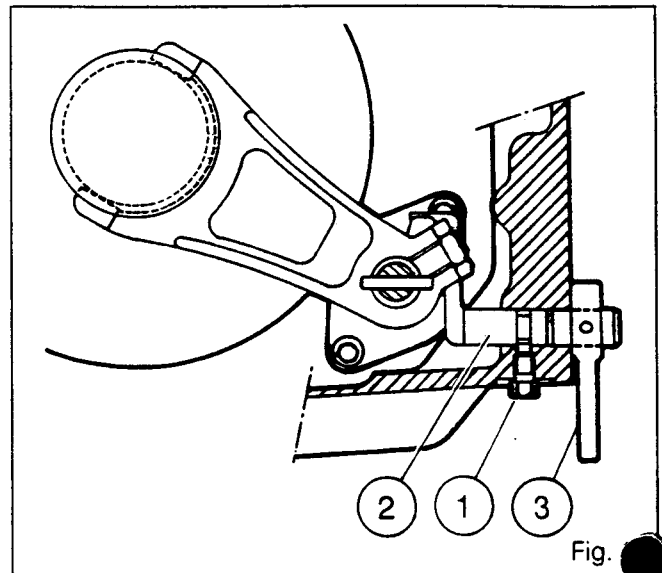
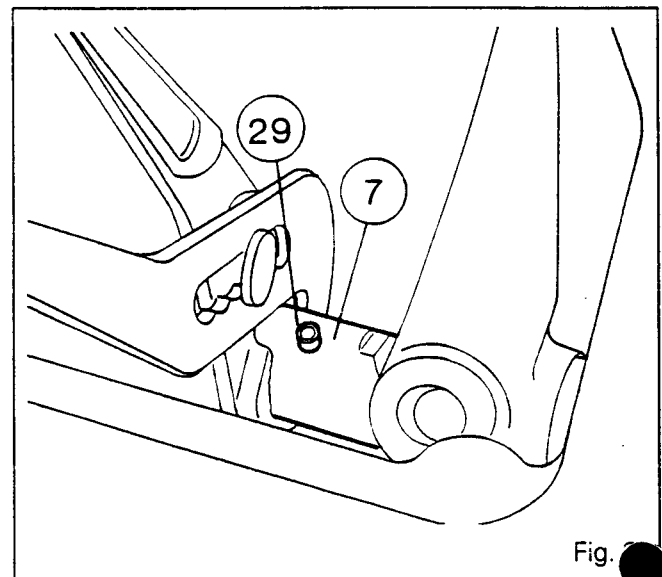

Fig. 1
Fig. 2
4. Remove the bolt (1), withdraw the rod (2) to disengage the finger from the fork (Fig. 1).
5. Unscrew the nut (26) and the locking screw (27) on the fork (28).
6. Remove the setscrew (8).
7. Turn the selector rail (7) and drive out the dowel (29) (Figures 2 and 3).
17. Remove the rod (3) (Fig. 1).